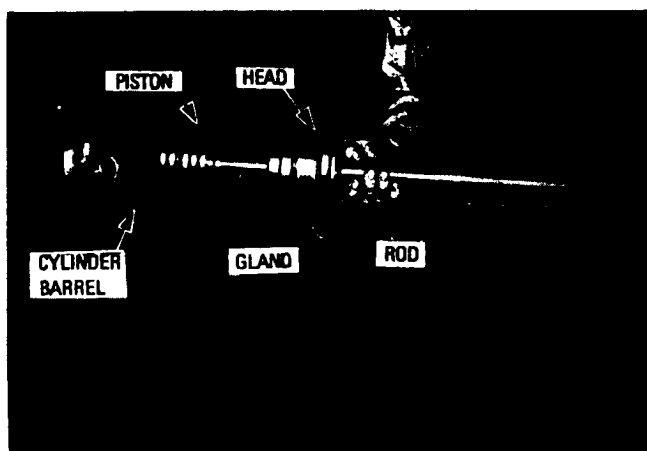

Fig. 4- Removal of Rod and Piston Assembly
5. The rod and piston assembly may then be removed from the barrel as shown in Fig. 4.